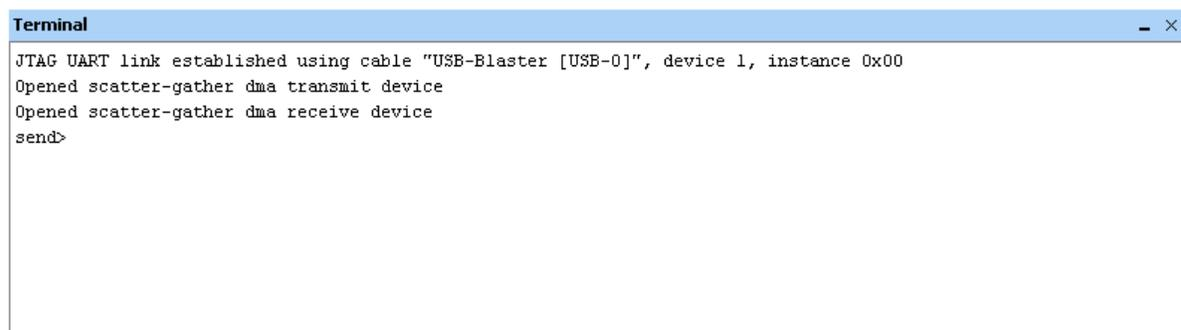

Figure 26. Running the application program by using the Monitor Program.
11. Then click **Actions > Continue** to start running the program on the board. You should see the message on the Monitor Program terminal screen as shown in Figure 26.